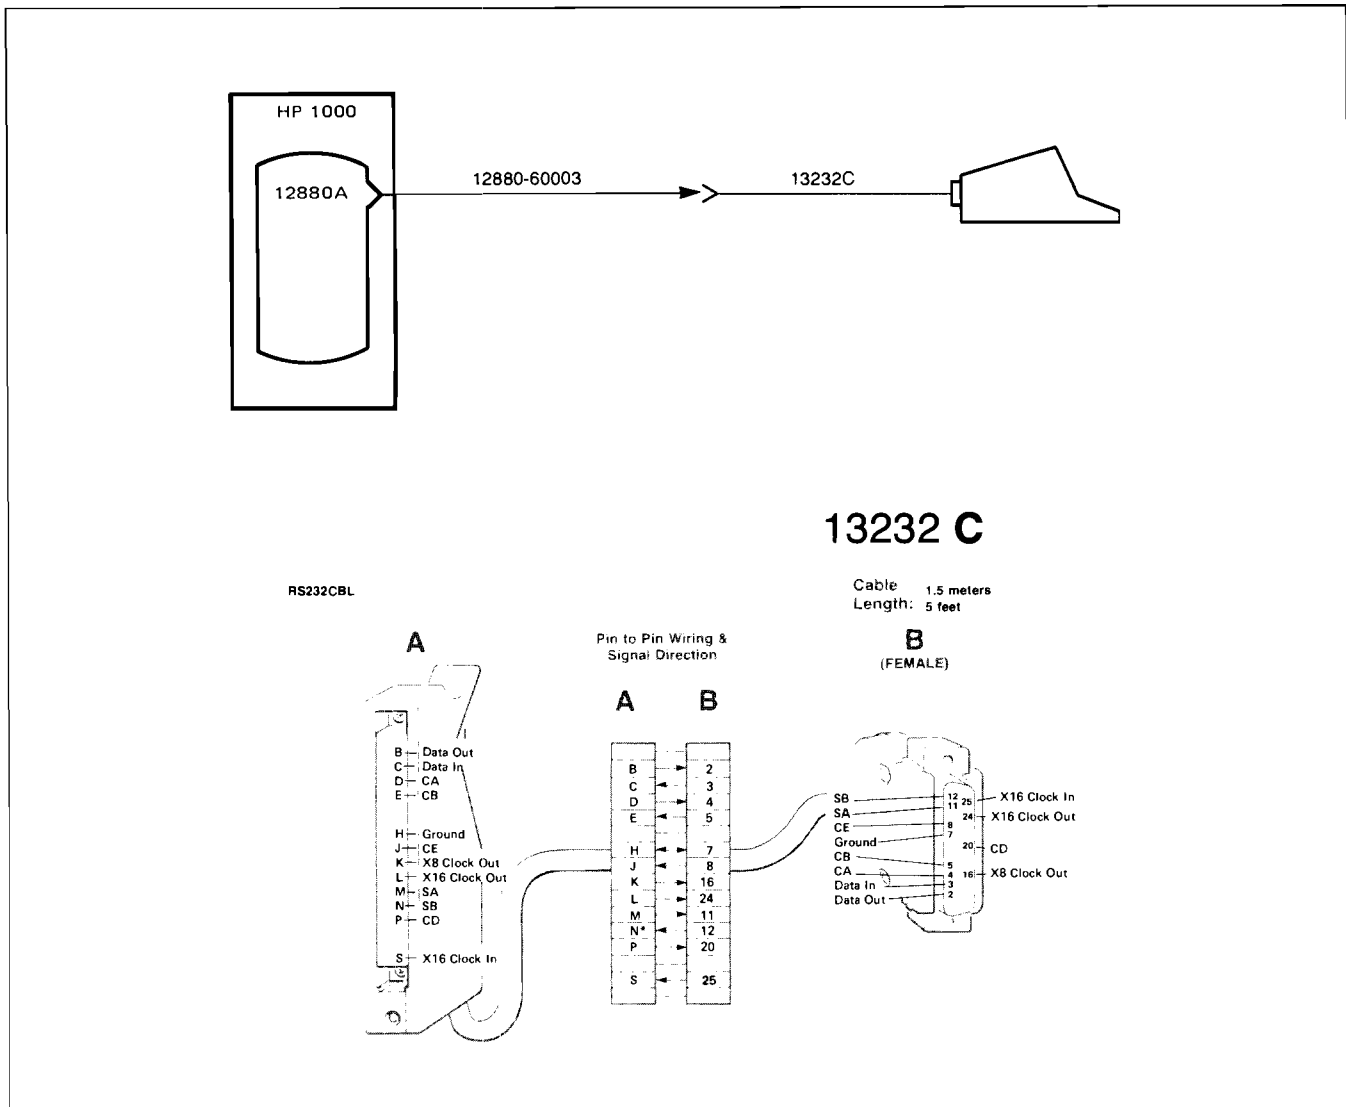

Figure 1-9. Connecting the Terminal to the HP 1000 Computer System with the HP 12880A Interface
To connect the HP 2647A terminal to the HP 1000 Computer System using an HP 12880A interface, refer to figure 1-9 and perform the following:
6. Connect cable HP 13232C from terminal to cable part no. 12880-60003 to computer (see figure 1-9).